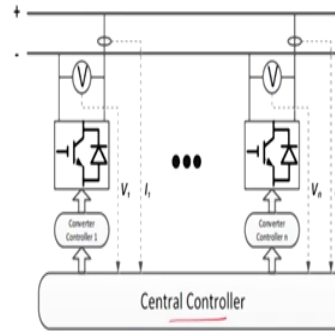

Fig.1 Central control
- By using a central controller, the real-time sampling and detections are collected from all the terminals to a general central controller as is illustrated in Fig.1.